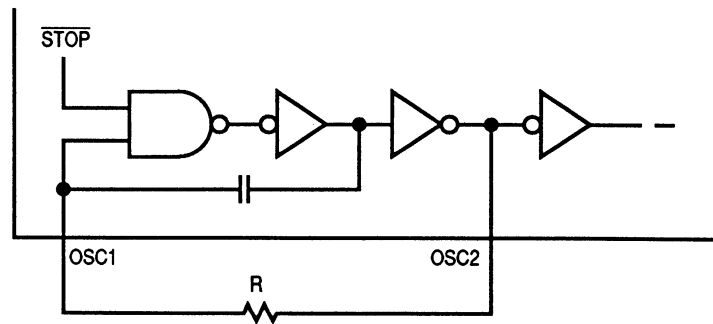

Figure 2-4. RC Oscillator Connections
- A resistor between OSC1 and OSC2 to form an RC circuit with an internal capacitor (see Figure 2-4)
With this option, a resistor is connected to the oscillator pins as shown in Figure 2-4. Since the accuracy of the RC oscillator is $\pm 50\%$, the nominal design frequency must be limited to 66% of the maximum frequency to ensure that the operating frequency remains below the upper limit of operating frequency. This 50% tolerance only allows for the MCU variation, and additional allowance must be made for the tolerances of external components. Operation with a crystal or ceramic resonator is preferred.